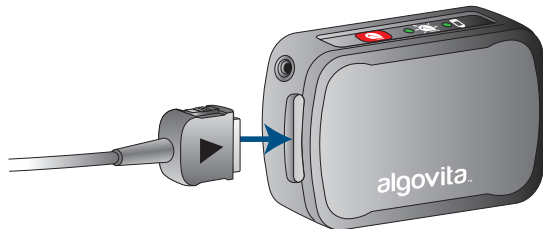

Figure 5. Connecting the trial cable to the EPG
4. With the arrow on the trial cable end and the Algovita logo facing the same direction, connect the trial cable to the EPG (*Figure 5*).